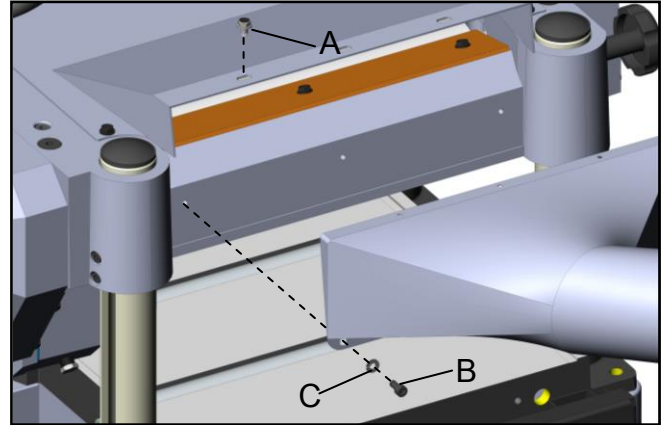

Fig. 3
Mount the dust chute to the planer hood with 3 Hex. head screws w/washer (A) . CAP screws (B) & spring washers (C), Fig. 3.